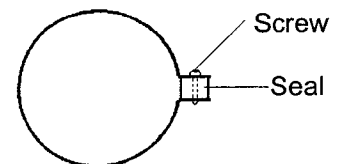

Fig. 13
- 5.5.27 Referring to Fig. 13 assemble a small maintenance clip on the outlet of the boiler flue bend. Push the inner flue tube into clip and tighten clip screws.